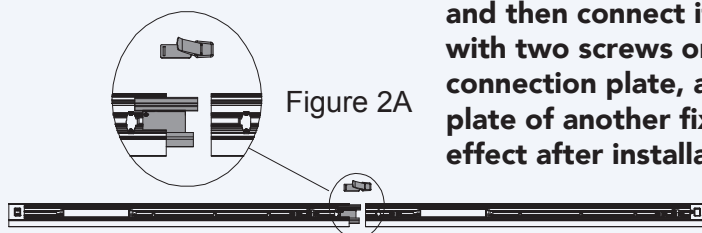

Figure 2A
**Step 2:** Insert H mechanical joiner into one side of fixture, and then connect it to another fixture. You can fix H with two screws or not. Put the spring buckle on the connection plate, and then buckle it on the connection plate of another fixture. As shown in Figure 2A. The effect after installation is shown in Figure 2B